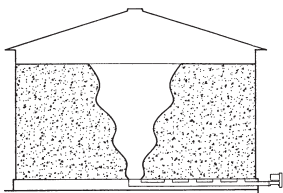
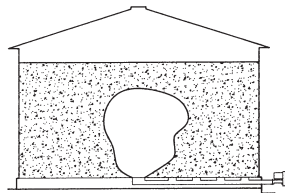

FIG. 1
FIG. 2
**DO NOT enter the bin if the grain has bridged or has not flowed normally out of the bin, such as shown in Figure 1 or Figure 2, the grain may suddenly break loose and bury causing suffocation.**